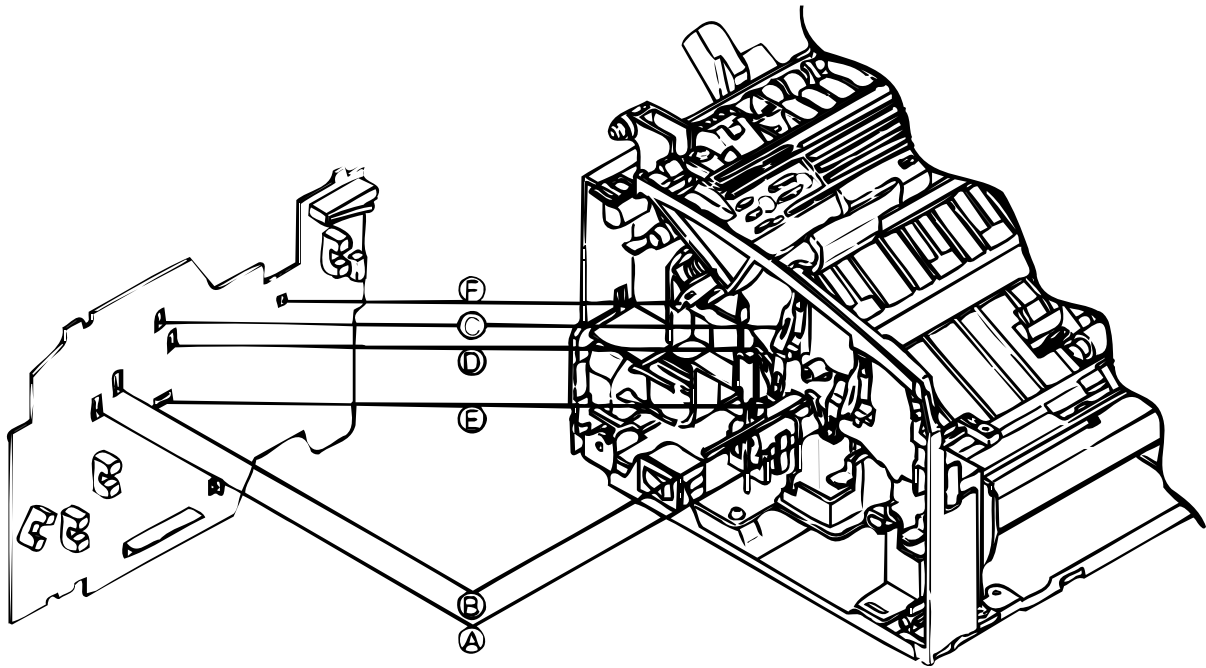

Figure 6-4
① An image is light or blurred entirely.
② Dark background density
- ▼ No Is the terminal of the EP unit in correct contact with the contact plate? (See Figure 6-4 ㉓ and Figure 6-5 ㉓.)
▼ No Is the terminal of the EP unit in correct contact with the contact plate? (See Figure 6-4 (A) (B) (C) (D) (E) and Figure 6-5 (A) (B) (C) (D) (E).)